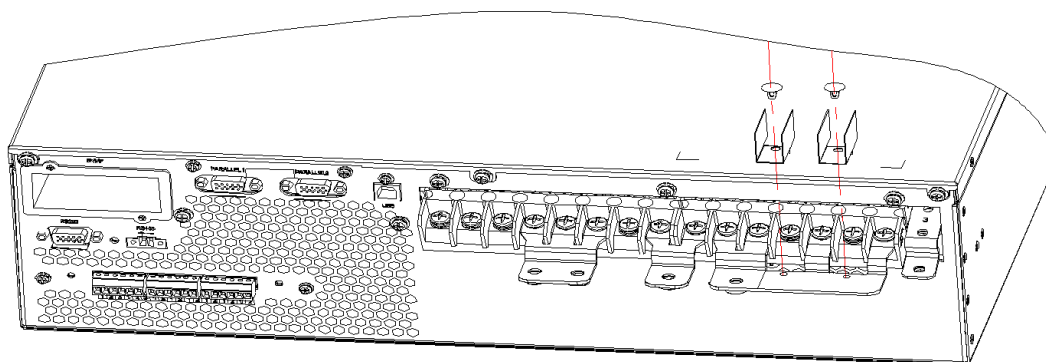

Fig. 3-16 Fix insulation film
- 3、 In Figure 3-16, mounte the insulating film (accessory) to the No.6 copper bar, and fixed in the corresponding position with the plastic rivet, as shown in figure 3-27